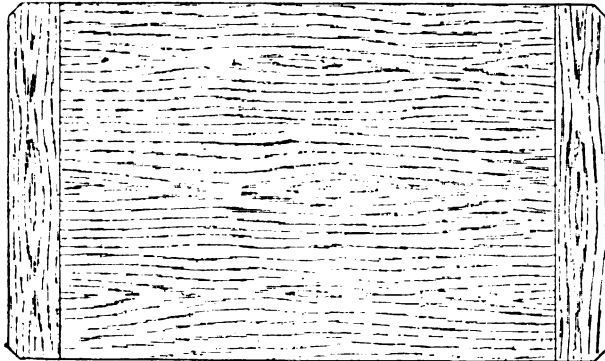

FIG. 1
**Blackboard.**—Figs. 1 to 3 show the construction of a clamped blackboard. The material generally used is best pine, free from knots and with a close grain, the usual thickness in the rough being about 1 in., which works down when finished to about  $\frac{3}{4}$  in. The board would have to be formed by jointing up two, three, or more 11-in. boards, depending, of course, upon the particular size required. The best job results if these joints are ploughed and a cross tongue is inserted, all the joints being glued, of course. When the glue